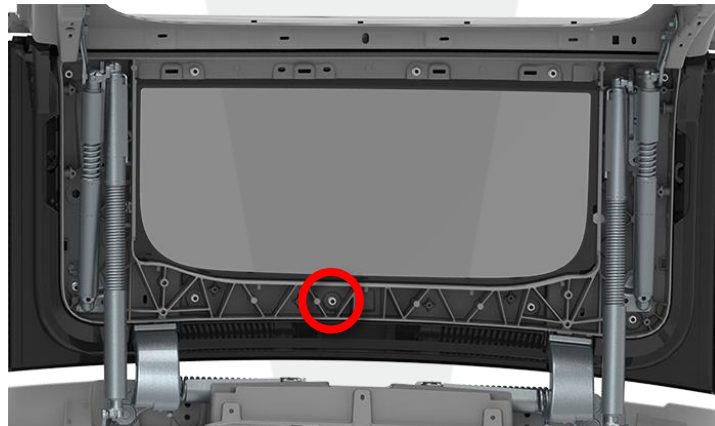

Figure 1
4. Remove the lower center nut that secures the upper glass to the upper door (Figure 1).